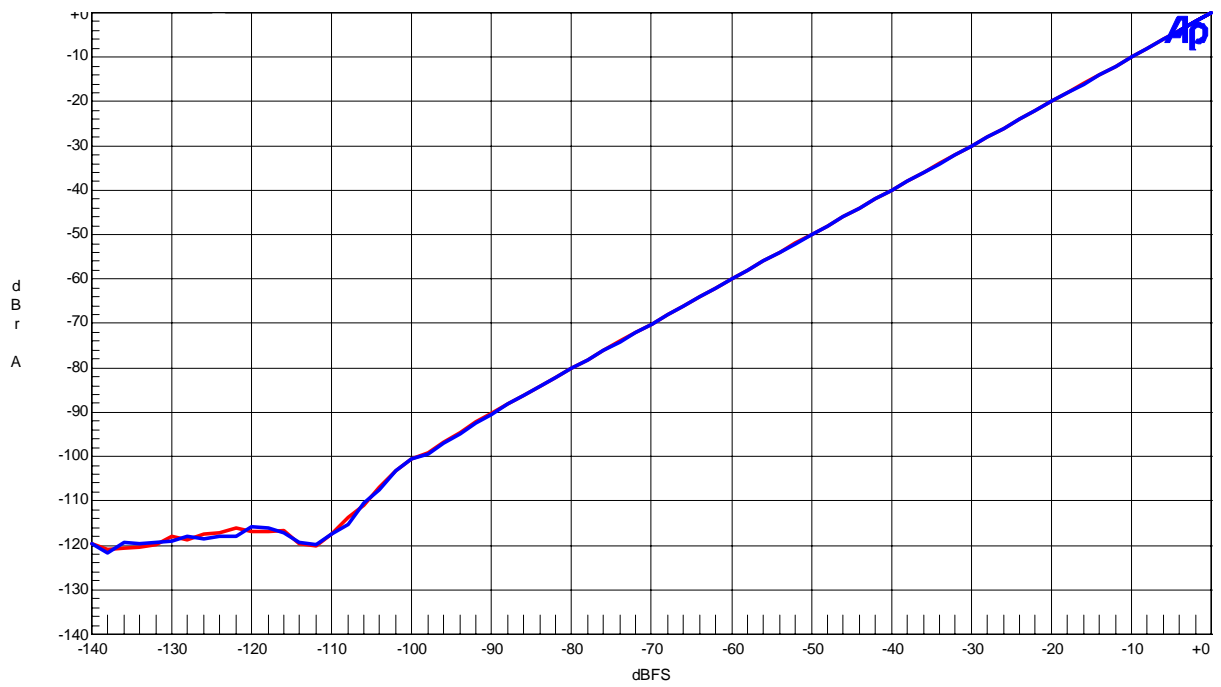

Figure 34. Linearity (Input Frequency=1kHz)
- Figure 34. Linearity (Input Frequency =1kHz)